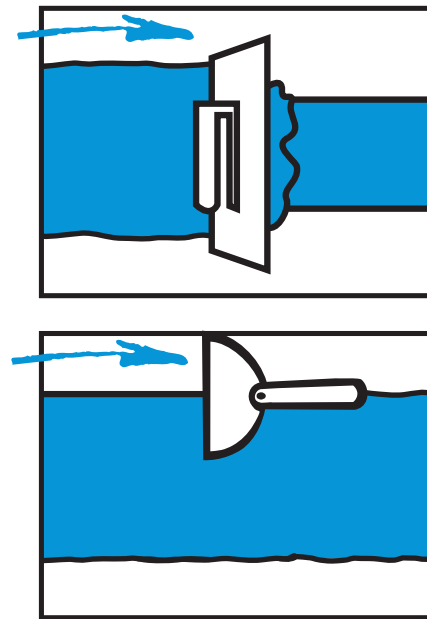
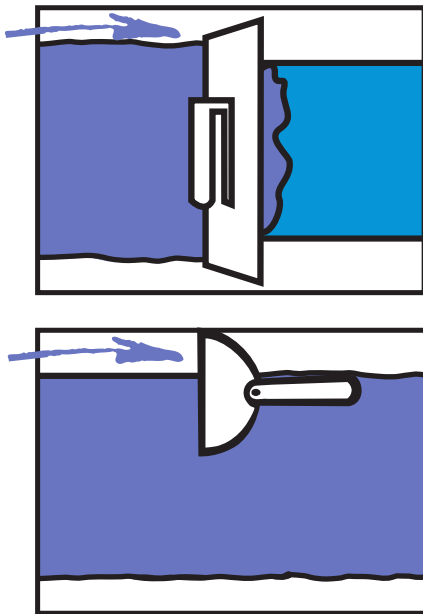
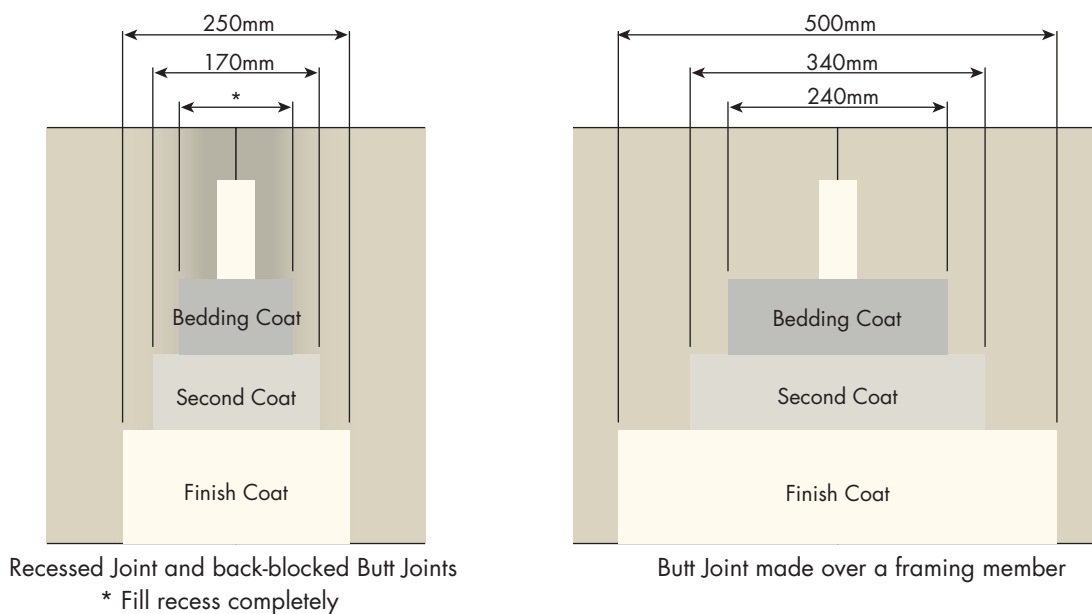

FIGURE 7 Second Coat
FIGURE 8 Finishing Coat
FIGURE 10 Minimum Coat Widths
- Using a broadknife, evenly fill the recess with compound [Refer to Figure 10 for minimum coat widths]
- Place tape along the joint and bed it into the compound, removing excess compound and any air bubbles from behind the tape [Refer to Figure 7]
- Using a 200mm trowel to apply a second coat of compound [Refer to Figure 7 and to Figure 10 for minimum coat widths]
- Use a 280mm trowel to apply a third coat of compound [Refer to Figure 8 and to Figure 10 for minimum coat widths]